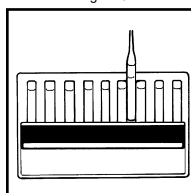

Figure 4
8. Obtain a test result by placing the ampoule between the color standards until the best color match is found (fig 4).